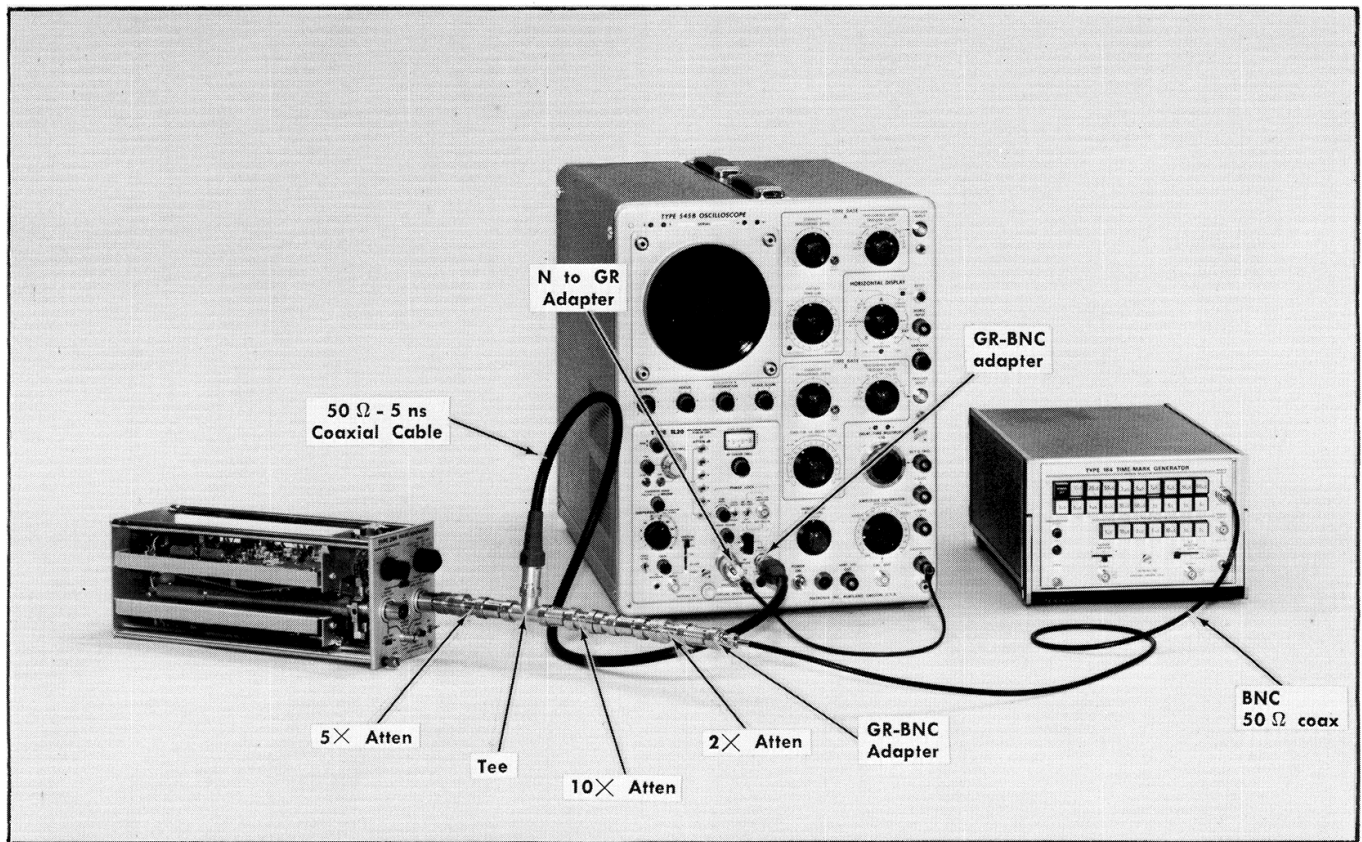

Fig. 6-16. Setup for steps 9 and 10.
9. Adjust 10 ns Sine Wave Period C62 ①
b. Use the equipment setup as shown in Fig. 6-16. Connect the Sawtooth A signal output via a BNC to banana patch cord to the 1L20 Sweep Input connector.